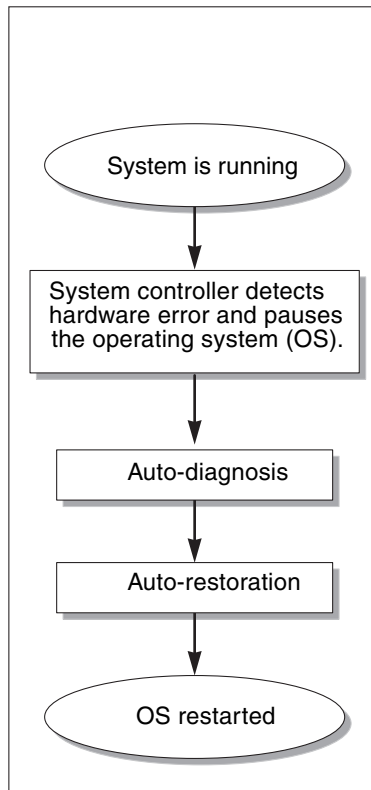

FIGURE 7-1 Auto Diagnosis and Recovery Process
Depending on the type of hardware errors that occur and the diagnostic controls that are set, the system controller performs certain diagnosis and recovery steps, as FIGURE 7-1 shows. The firmware includes an *auto-diagnosis* (AD) engine, which detects and diagnoses hardware errors that affect the availability of a system.
The following summary describes the process shown in FIGURE 7-1: